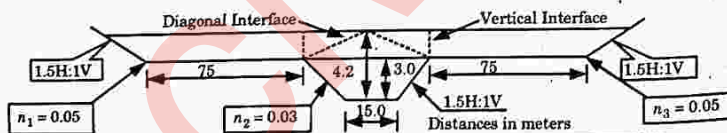

Fig. 1.36.1. Schematic representation of compound channel.
i. In this method the flood banks are separated from the main channel by means of vertical interface as shown in Fig. 1.36.1. This interface is considered as a surface of zero shear where is no transfer of momentum takes place.
i. In this method, a diagonal interface is considered from the top of the main channel bank to the centerline of the water surface as shown in Fig. 1.36.1.
1. The channel section is considered divided into three subsection, A_1 , A_2 and A_3 by means of two vertical interfaces which start at the intersection of the flood plains and the main channel as shown in Fig. 1.36.1.
By symmetry, sub-area A_1 = sub-area A_3 . The vertical interfaces are as indicated in Fig. 1.36.1.